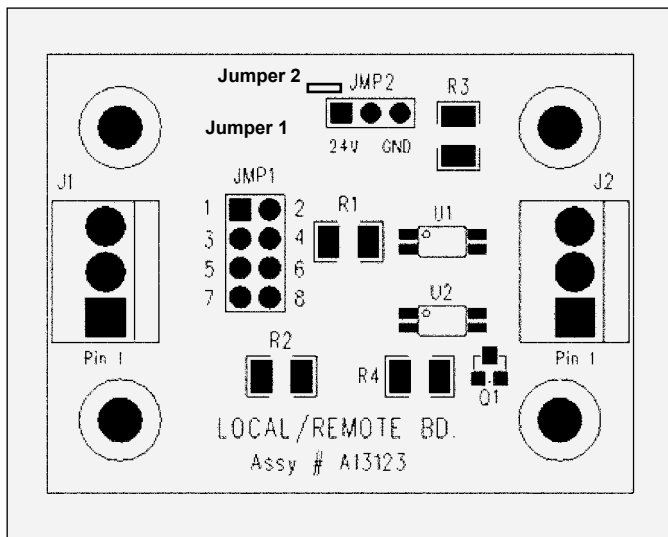

Figure 15: Local/Remote Board Jumper Headers
6. The local/remote board (Assy#A13123), jumpers must be adjusted into one of the two REMOTE settings, based on the desired input type, to allow for REMOTE mode operation. The location of the jumpers on the board is displayed in Figure 15. Use the REMOTE mode jumper settings table for the jumper settings based upon your specific input.